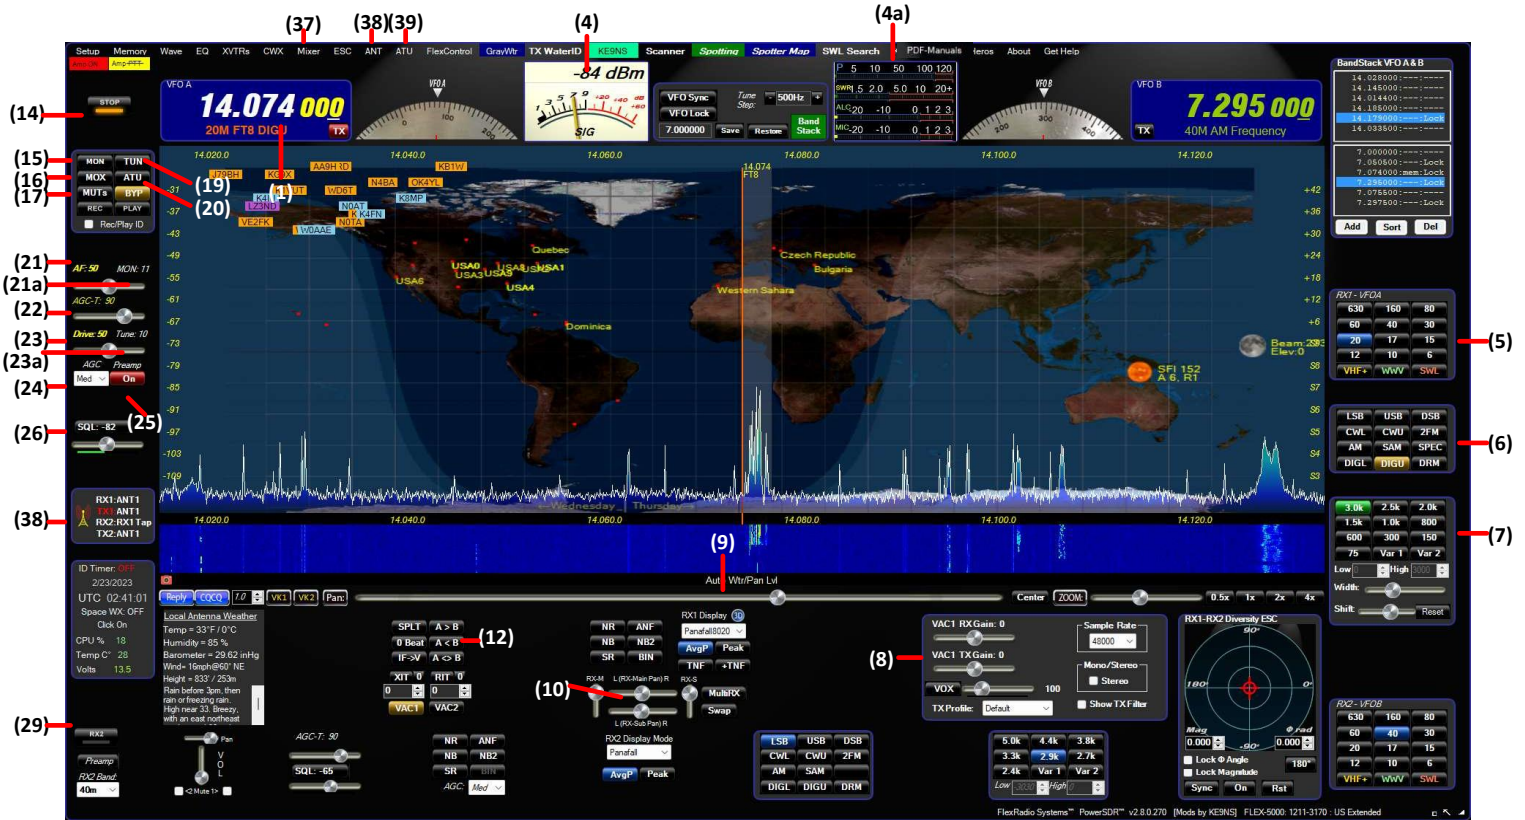
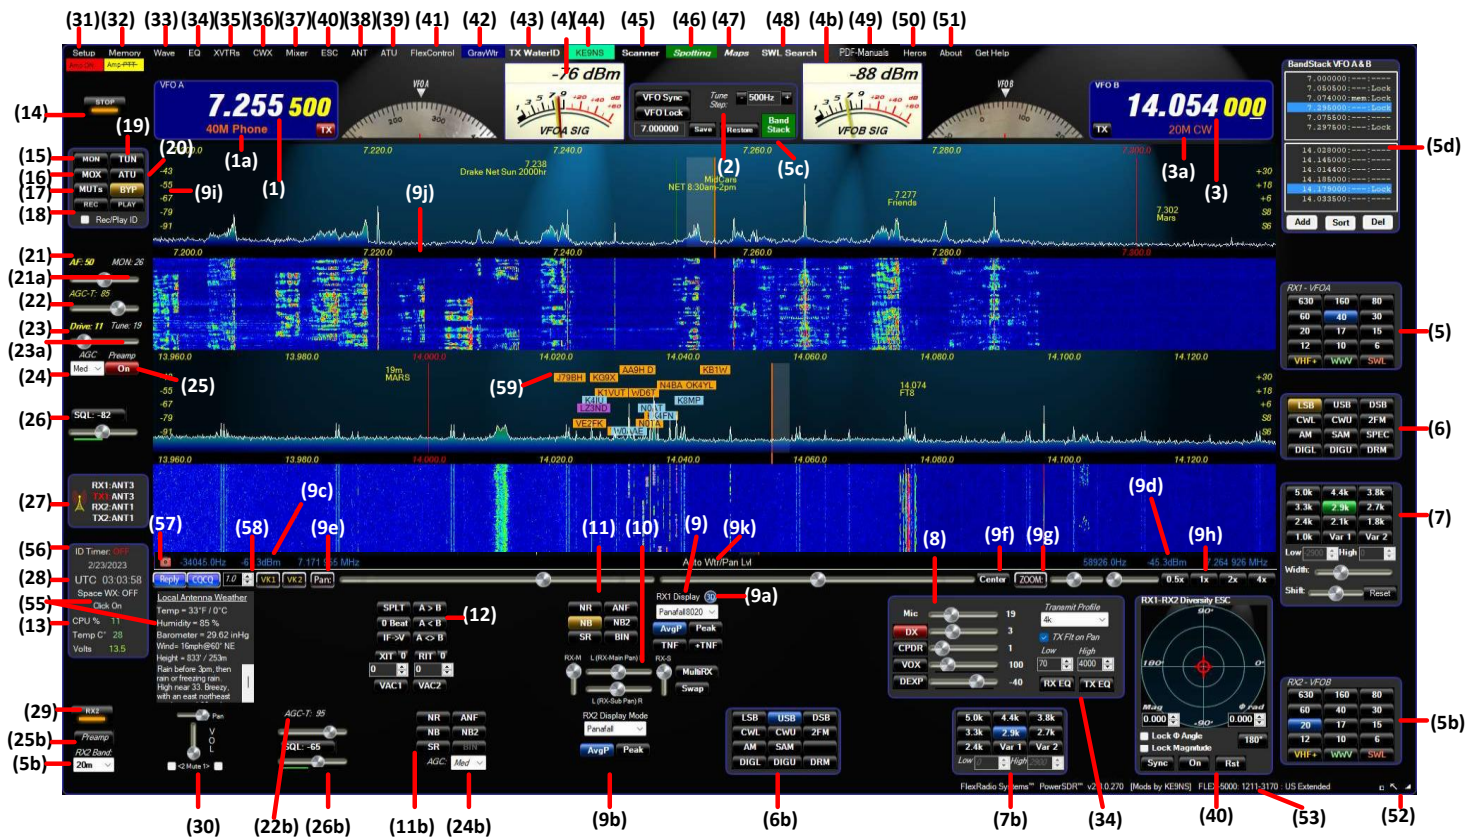

Figure 44: Front Panel Controls Used for Basic Digital Mode Operation
Figure 46: PowerSDR 2.0 Front Console
Please use Figure 44 to identify the controls referenced in the following step-by-step instruction. For consistency we have used the same control identifiers as in Figure 46 on page 73 and for clarity we have left out any identifiers of controls not referenced.
If your digital mode software requires a stereo connection, check **Stereo**. To automatically enable VAC for **DIGU**, **DIGL** and **DRM (6)** modes, check **Auto Enable**. When operating these modes, the Front Console also shows several controls relating to VAC (8), as shown in Figure 44 above). You can now use **VOX** to PTT the radio. This prevents audio from becoming out of sync after hours of continuous operation or Check **Reset VAC every hour**.
Right Click on the digital dBm value area will toggle the Meter RX/TX selection menu OFF/ON. Setup-> Appearance-> Meter-> **Meters On Top** (just like Figure 46)